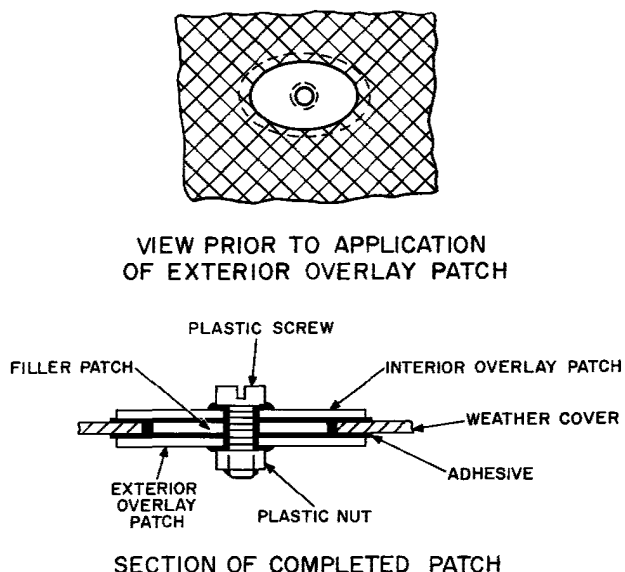

Fig. 3—Class C Repair
4.01 This method is limited to damaged areas not to exceed 1-1/2 by 2-1/4 inches. The repair procedure consists of cutting out the damaged portion of the weather cover to a prescribed pattern and covering with oversize internal and external patches held in place with a plastic machine screw and nut, and hermetically sealed with an adhesive. (See Fig. 3.)